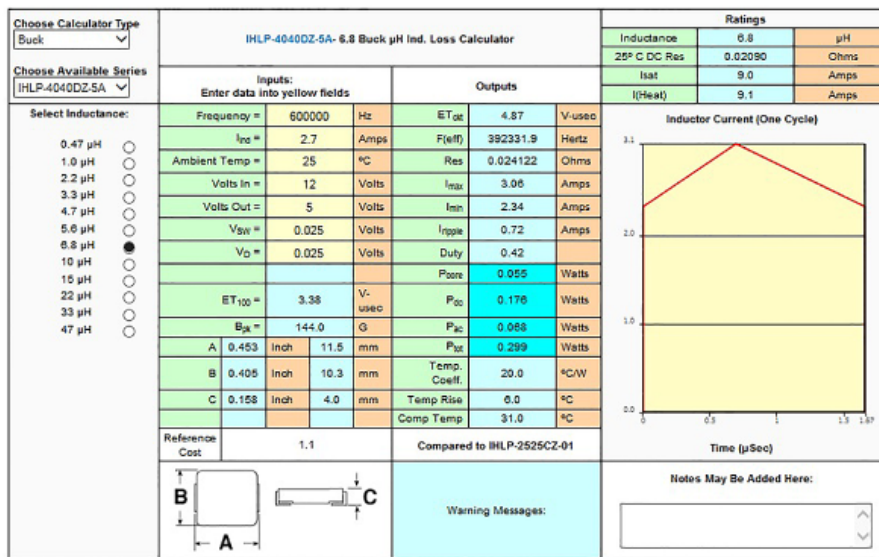

Figure 1. Vishay Inductor Calculation display results. Graphic supplied with permission from Vishay Intertechnology, Inc.
The other important parameter for inductor selection is the DC series resistance (DCR). Designers are always faced with a trade-off of inductor size versus efficiency, as the DCR represents a source of power loss. The other power loss to consider is the core loss. The two inductor current ratings are continuous (I_{RMS}) and peak (I_{SAT} (A)). IRMS is normally specified as the DC current that produces an inductor temperature rise of 40°C. I_{SAT} (A) is the peak current that produces a specific roll-off in inductance, specified as a percentage reduction from the open-circuit value; it can vary from 5% to 50%. A good article included in the reference section titled, "Estimate Inductor Losses Easily in Power Supply Designs,"¹ provides a great reference to understand power losses in inductors. There are many free, online inductor design tools that are quite useful. One nifty online tool for inductor selection is from Vishay and found on their website.² This tool will calculate all the power losses in the inductor. Figure 1 is a result from that tool and based on the above example. Coilcraft^{3,4} also has some helpful online tools that help the user select the inductor value and calculate the power losses.